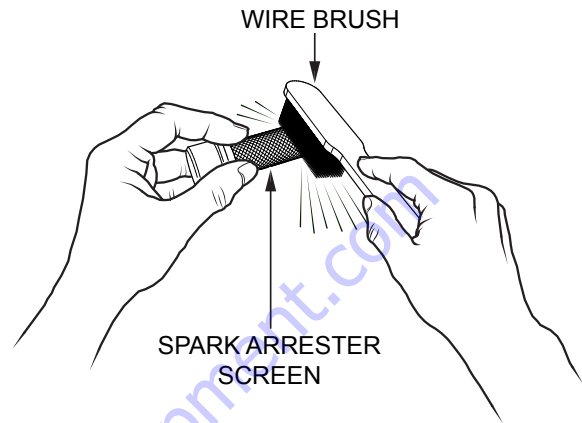

Figure 62. Cleaning the Spark Arrester
3. Carefully remove carbon deposits from the spark arrester screen (Figure 62) with a wire brush.